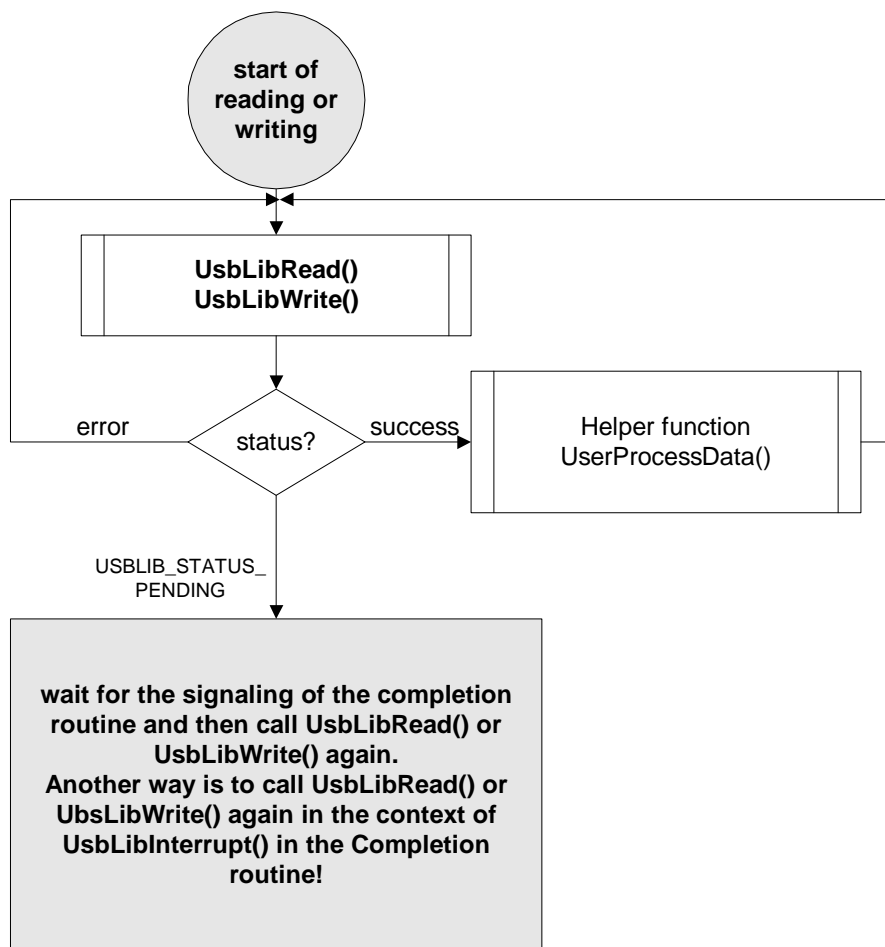

Figure 2: UsbLibRead and UsbLibWrite Program Flow in the main() context
- After detection of the configuration the embedded application can start reading and writing on the USB interface by using the functions **UsbLibRead** and **UsbLibWrite**. The following modules are shown in Figure 2:
Figures 2 and 3 shows the program flow for reading and writing.